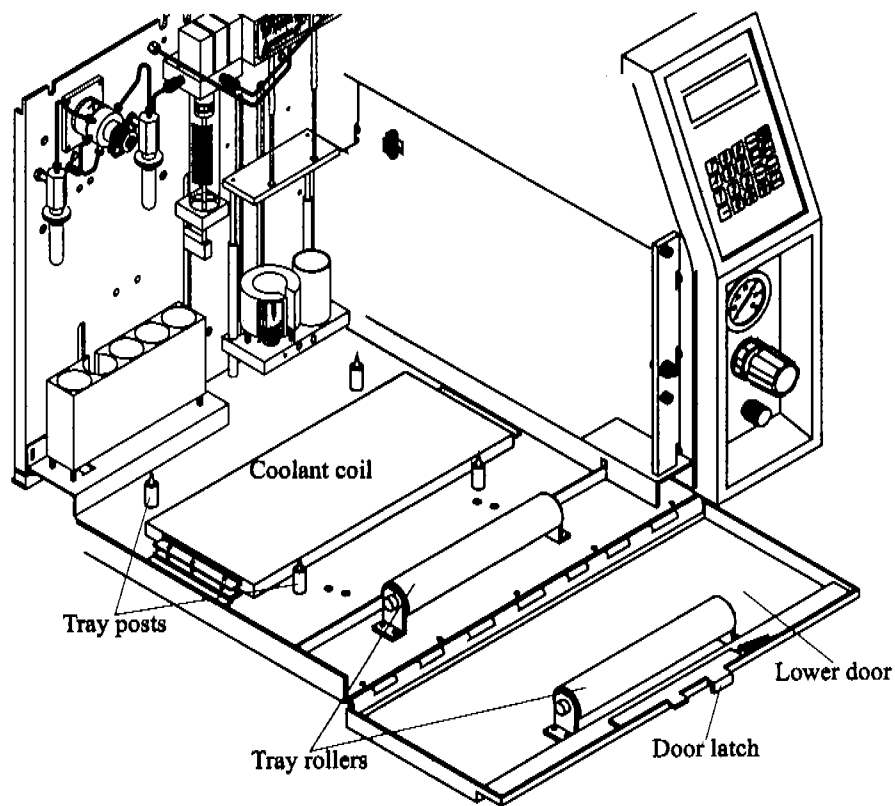

Figure 3.2. Sample tray setup
3. Grasp the handles on the tray and insert the tray into the Model 4552 with the number one position to the front left. The tray rests on the tray rollers as it inserts. Once the tray inserts completely, it locks down onto four tray posts, aligning the tray (Figure 3.2).